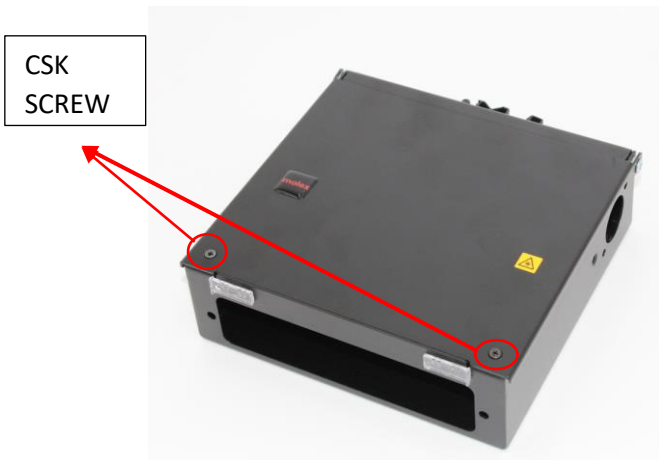

Fig:1
Step 1:, Unscrew the CSK screws fixed on the top cover as shown(**Fig:1**) location below and open the top cover plate from the base enclosure (**Fig:2**) (Top cover can open up to 180°).